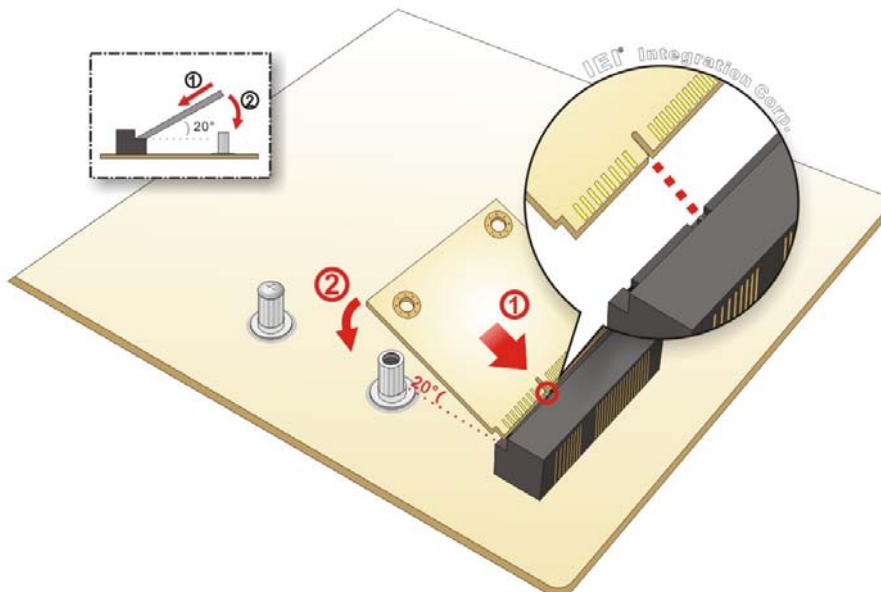

Figure 4-12: Inserting the Half-size PCIe Mini Card into the Slot at an Angle
Step 3: Insert into the socket at an angle. Line up the notch on the card with the notch on the slot. Slide the PCIe Mini card into the slot at an angle of about 20° (Figure 4-12).